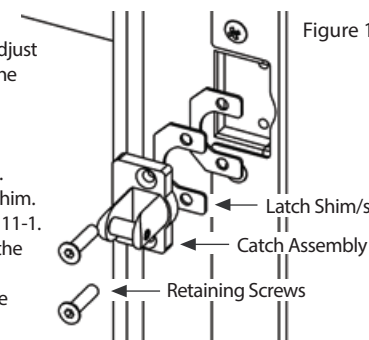

Figure 11-1
- Additional shims are provided in the user manual packaging. Refer to figure 11-1.